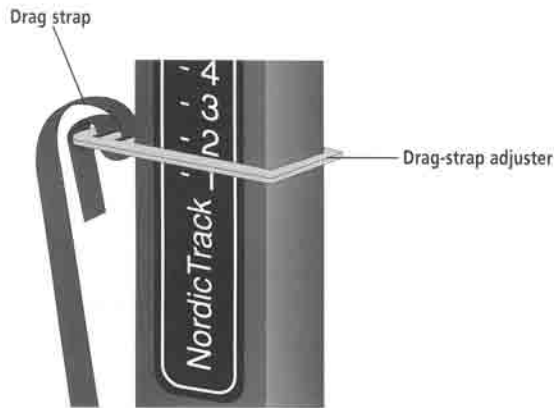

Figure 5
1. Route the end of the drag strap through the drag-strap adjuster as shown in Figure 5.